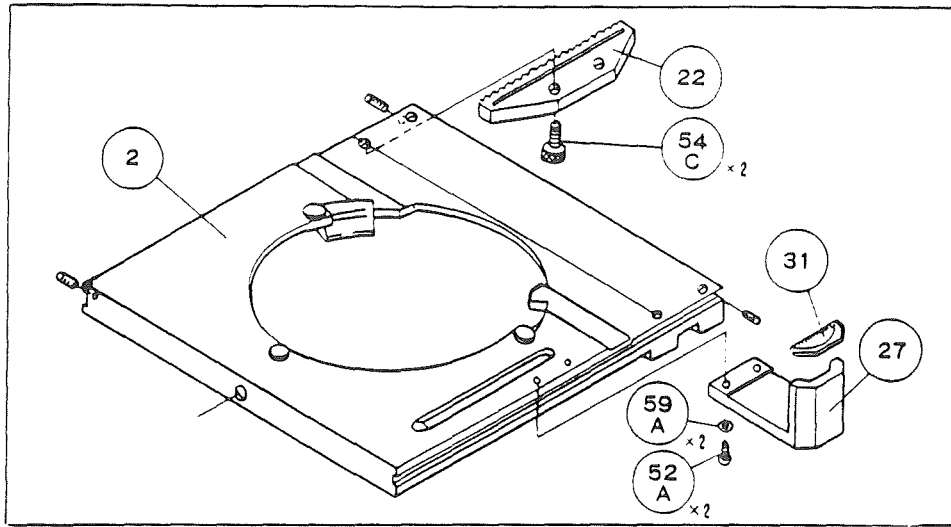
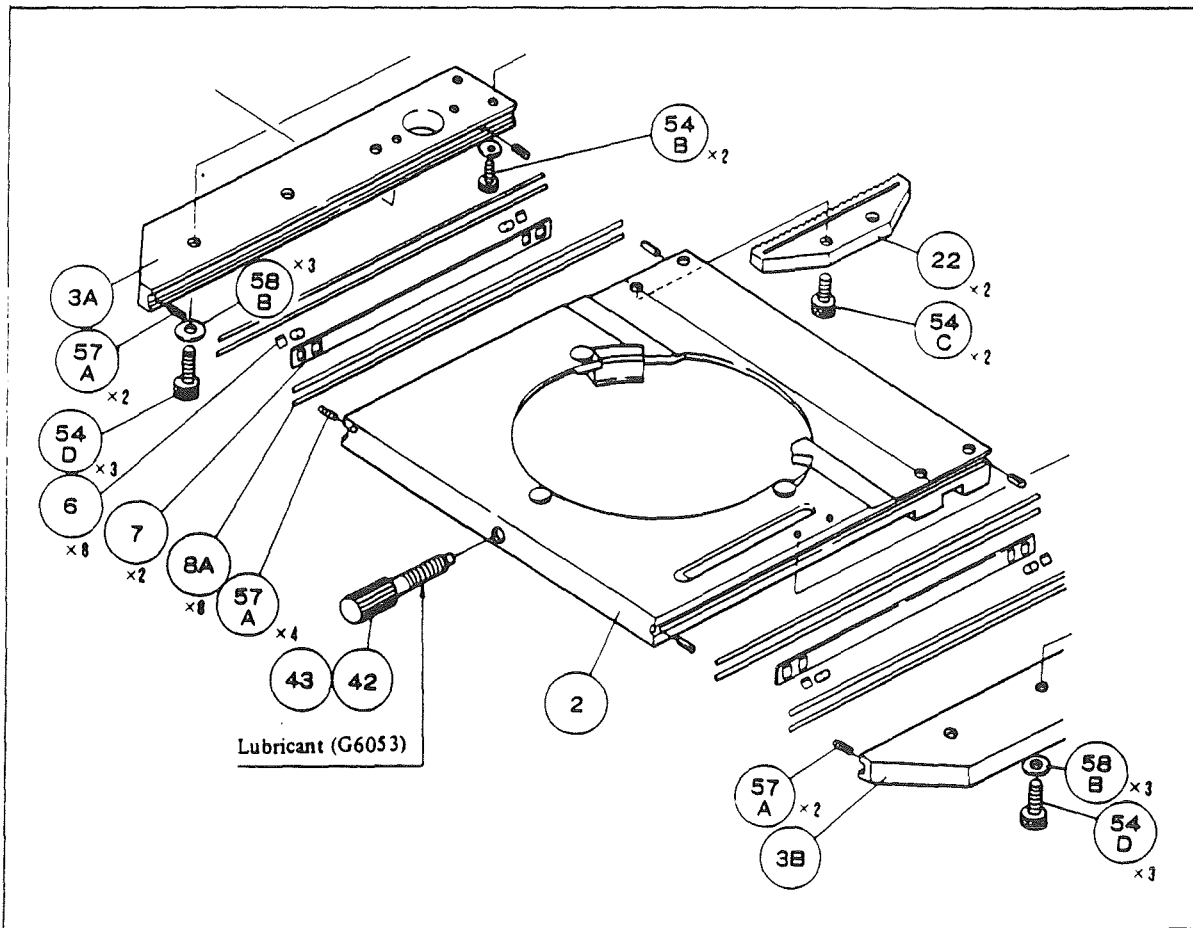

Fig. 4
Fig. 5
- 4) Releasing the screws (54C) x 2, remove the rack (22) (Fig. 4).
- 5) Removing the screws (54A) x 2 of the pinion cover (9) separate the handle assembly from the stage.
- 6) Remove the nut (55A) of the X (right and left) knob (14).
- 7) Remove the X knob (14).
- 8) Remove the wave washer (18), the Delrin washer (21) and the flat washer (58C).
- 9) Remove the round nuts (15) (16) of the Y (to and fro) knob (13).
- 10) Remove the wave washer (17) and the Delrin washer (19).
- 11) Remove the Y pinion (12) and Y knob (13) assembly.
- 14) Releasing the screws (52A) x 2, separate the vernier scale seat (27) from the stage base plate (2). (Fig. 4)
- 15) Releasing the screws (54B) x 4 separate the X guide block (4) from the Y guide blocks (3A), (3B). At the same time the X block (5), the rollers (6) the retainers (7) and the guide rails (8B)(8C) are also separated.
- 16) Remove the X rack (23) from the X block (5).
- 17) Separate the guide block either (3A) or (3B) from the stage upper plate (1). Then the stage base plate (2) the rollers (6), the retainers (7) and the guide rails (8A) becomes free. (Fig. 5)
**< Reassembling the X and Y Movement >** (Fig. 5, 6) .
- 1) Place the stage upper plate (1) upside down tilting on a table. The guide block (3A) (or (3B)) whichever that has been left fixed on (1) makes the basis of the reassembling.